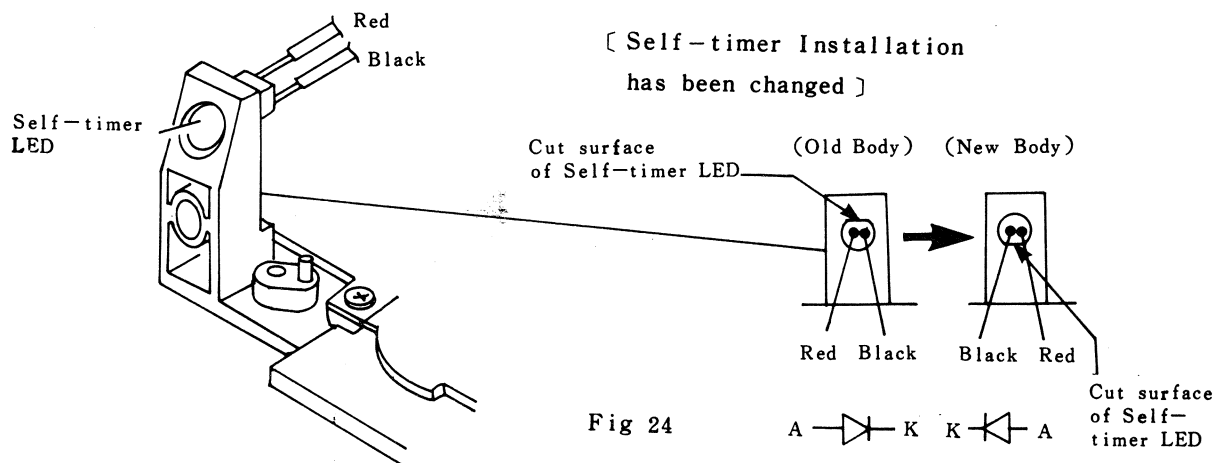

Fig 24
- ① White lead wire (from FPC-G to FPC-F).
- ② Purple lead wire (from FPC-G to FPC-F).
- ③ Soldered joint FPC-G and Shutter FPC.
- ④ Red, Yellow and Brown lead wires (from Release Switch Board to Shutter FPC).
- ⑤ Purple and Orange lead wires (from Self-timer Switch Board to Shutter FPC).
- ⑥ Red, Orange and Yellow lead wires (from DX-Switch to Shutter FPC).
- ⑦ Black lead wire (from Self-timer LED to Shutter). See (Fig 24)
- ⑧ Unsolder ten soldered joints of Shutter FPC and FPC-F.